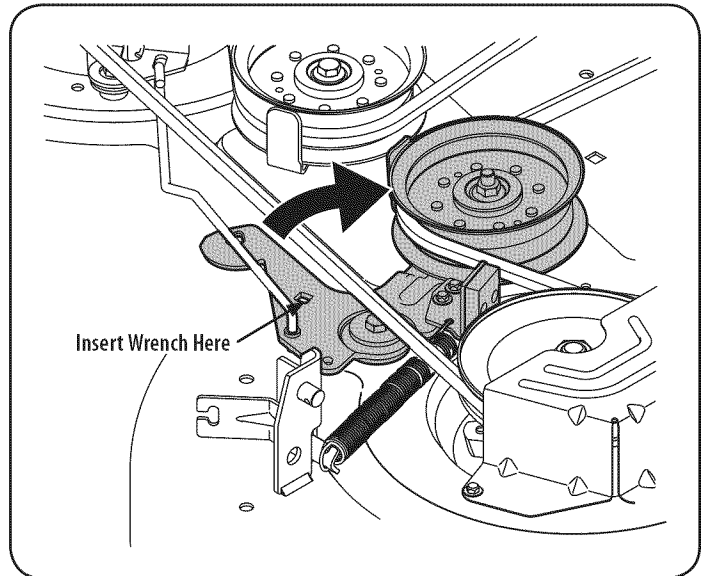

Figure 23
- Working on the right side of the tractor, insert a $\frac{3}{8}$ " drive ratchet wrench, set to tighten, into square hole found on the idler bracket. See Figure 23.